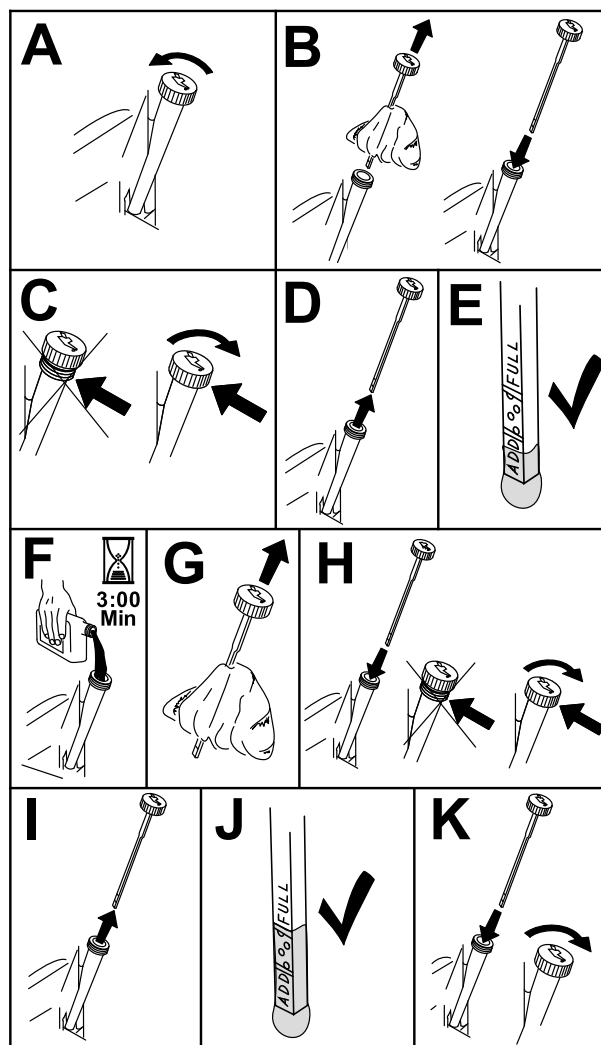

Figure 49
3. To keep dirt, grass clippings, etc., out of the engine, clean the area around the oil-fill cap and dipstick before removing it (Figure 49).